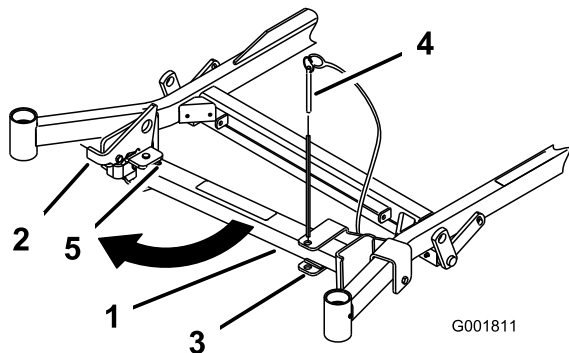
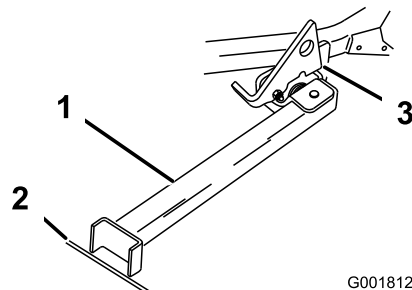

Figure 34
Figure 35
2. Remove the bracket pin (Figure 34).
3. Raise the latch. Swing the stand foot out front and slide stand toward machine, into the bottom of slot (Figure 34 and Figure 35).
6. Set the foot of stand on the ground and rest the latch on the pivot tab (Figure 35).
- Note:** For best results, place the foot of stand into seams in sidewalks or into the turf (Figure 35).
8. Drive onto the stand. Stop when the latch drops over the tab into the LOCKED position (Figure 35). Once onto the stand, engage the parking brake and shut off the engine.
7. Return the stand to its REST position (Figure 34).